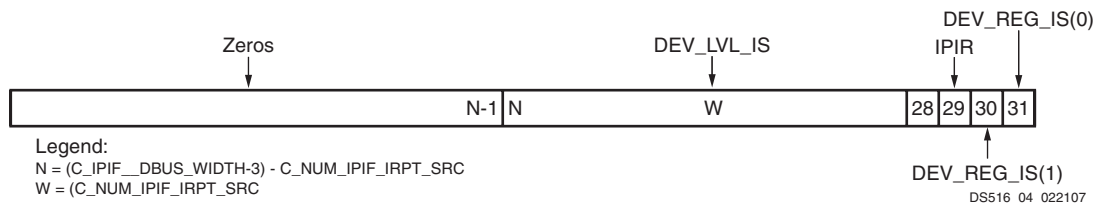

Figure 4: Device Interrupt Status Register
The device Interrupt Status Register shown in Figure 4 gives the interrupt status for the device. This register is fixed at 32 bits wide and each utilized bit within the register is set to 1 whenever the corresponding interrupt input (IPIF_Lvl_Interrupts and IPIF_Reg_Interrupts) has met the interrupt capture criteria. Unlike the IP Interrupt Status Register, the capture mode for this register is fixed. DEV_REG_IS(0) and DEV_REG_IS(1) (mapped from IPIF_Reg_Interrupts(0) and IPIF_Reg_Interrupts(1) ports respectively) are captured with a sample and hold high mode. This means that if the input interrupt is sampled to be 1 at a rising edge of a Bus2IP_Clk pulse, the register bit is set to a 1 and held until the user interrupt service routine clears it to a 0. The remaining bits within the register, DEV_LVL_IS(), (mapped from IPIF_Lvl_Interrupts ports) are passed through. Any additional sample and hold operation is not necessary in this register because once asserted, the bits are held by the source of the interrupt. These interrupts must be cleared at the source function.